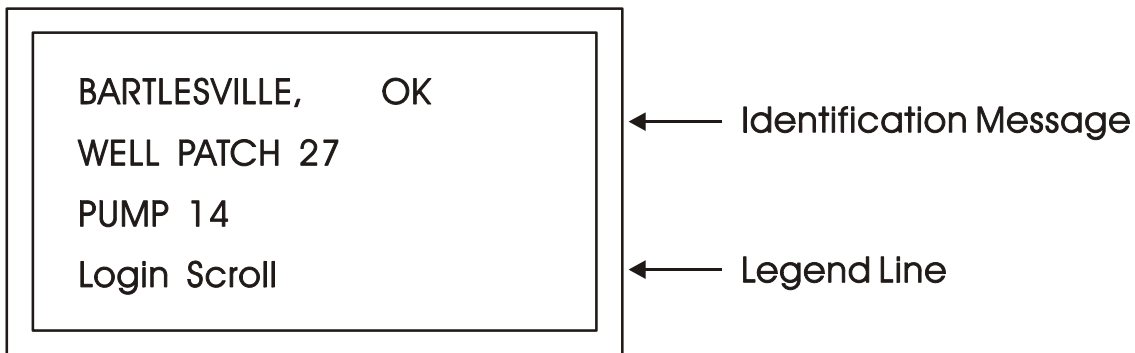

Figure 4-2. Identifier Display
Identifier Display The first display that shows on the screen is the Identifier Display. (See *Figure 4-2.*)
Up to four legends can appear on the legend line. The legend on the far left corresponds to the current function of the **[F1]** key. The current assignment for the **[F4]** key is on the far right. The current use for keys **[F2]** and **[F3]** are described to the left and right of center. When no legend appears, that function key is not active on this screen. For example, in *Figure 4-2* only **[F1]** and **[F2]** are active.
To begin automatic scrolling, press **[F2]** from the Identifier Display (*Figure 4-2*). Variable information appears on the screen and remains there for a period of seconds set by the application programmer. The variable name appears on the first line. The variable value appears on the second line and status information appears on the third line. See *Figure 4-4* for an example of this.
- [F4] Exit** Press Exit [F4] to return to the Identifier Display (Figure 4-2).
1. Go to the Identifier Display (Figure 4-2) if you're not there already. To do this, press [F4] until you reach the Identifier Display.